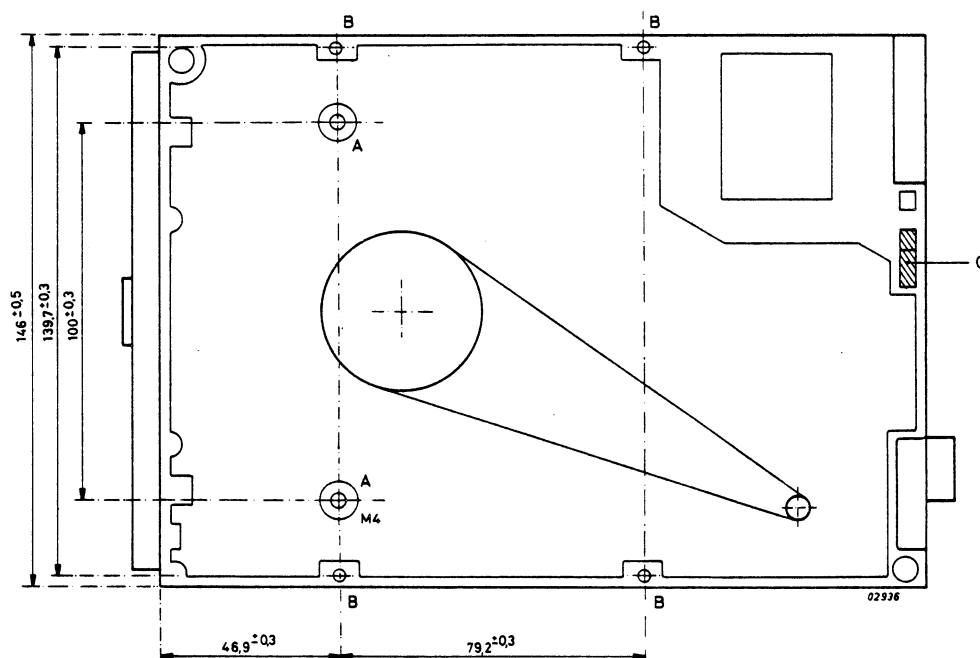

Figure 1.11 CHASSIS MOUNTING DETAILS
1.6.2 MOUNTING (SEE FIGURES 1.11 AND 1.12)